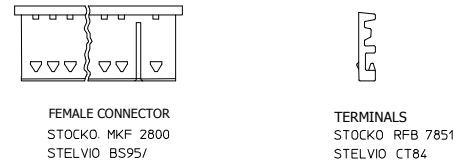
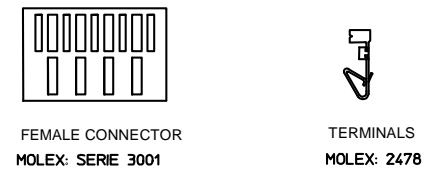

Fig. 2
Fig. 3
- ① This contact is not isolated from the main supply voltage by reinforced isolation, therefore the relay contact is not suitable to supply SELV circuits – Safety Extra Low Voltage.
- ② Safety thermostat opening causes cycle repetition and volatile/non-volatile lockout.
- ③ Standard connectors are Stelvio-Stocko models, as shown in Fig.2.
- ④ Flame failure during TS causes spark restoration.
- ⑤ Device is compliant only if the note “EN 298:2003 compliant” and the option “#” are reported on the label.
The control units are usually supplied with a kit of female connectors and/or a reset button (see Fig.2 and Fig.3). Do not fit terminals and female connectors of different types.